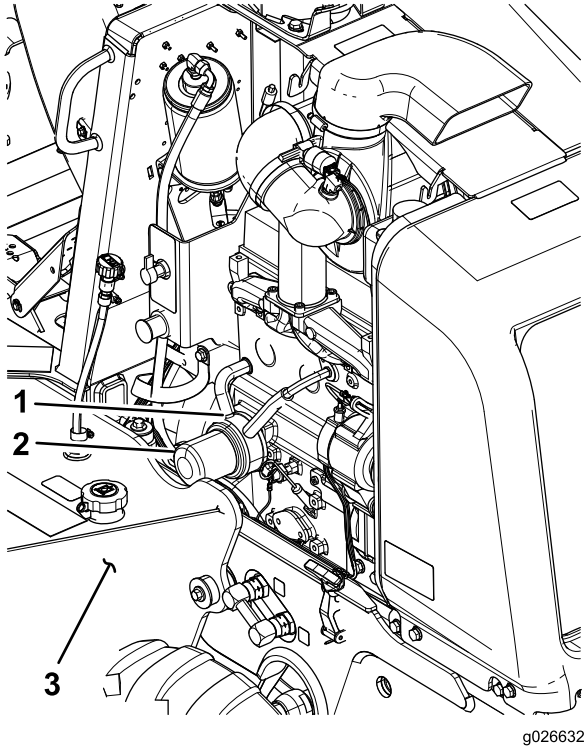

Figure 44
2. Place a small drain pan under the oil filter and the oil-filter adapter (Figure 44).
3. Rotate the oil filter counterclockwise and remove the oil filter (Figure 44).
7. Align the new oil filter to the oil-filter adapter and rotate the filter clockwise until the seal of the oil filter contacts the oil cooler (Figure 44).
8. Hand tighten the oil filter an additional 1/2 turn (Figure 44).